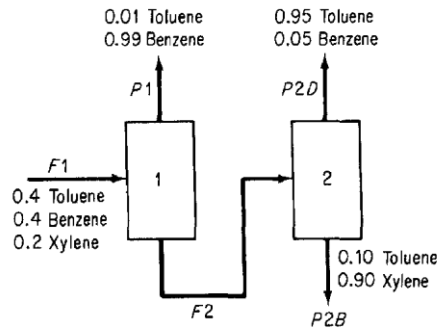

Figure SAT11P1
1. A two-stage separations unit is shown in Figure SAT11P1. Given that the input stream F1 is 1000 lb/hr, calculate the value of F2 and the composition of F2.
2. A simplified process for the production of SO3 to be used in the manufacture of sulfuric acid is illustrated in Figure SAT11P2. Sulfur is burned with 100% excess air in the burner, but for the reaction  $S + O_2 \rightarrow SO_2$ , only 90% conversion of the S to SO2 is achieved in the burner. In the converter, the conversion of SO2 to SO3 is 95% complete. Calculate the kg of air required per 100 kg of sulfur burned, and the concentrations of the components in the exit gas from the burner and from the converter in mole fractions.